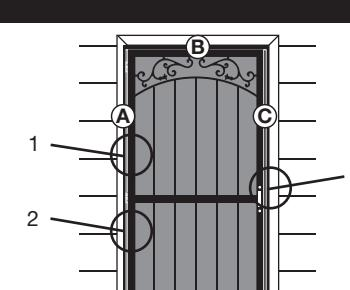

Fig. 14
Fig. 14 - Place the door into the opening making sure it is level and plumb. With the door in place, drill a 1/8" hole approximately 1/2" deep through each of the pre-drilled holes in the Z-bar jambs (A & B) and into the doorway trim. Starting with holes (1-3), insert mounting screws (L) and tighten.